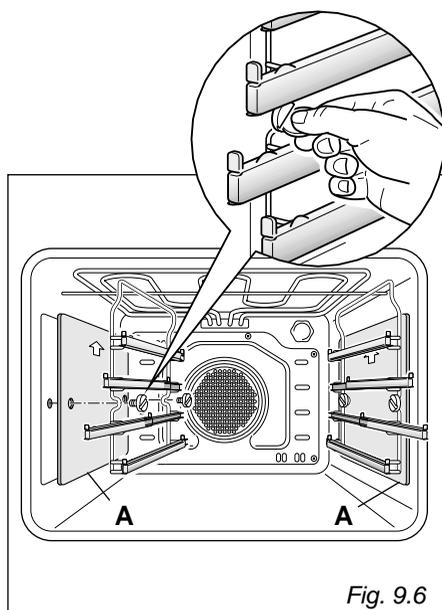

Fig. 9.6
- Assemble the sliding shelves on the oven walls using the 2 screws (Fig. 9.6).
- In the models with catalytic panels interpose the catalytic panels "A" with the arrow up (Fig. 9.6).
- Unscrewing the fixing screws and slide off the sliding shelves and the catalytic liners (if supplied) to the oven wall as in fig. 9.6.